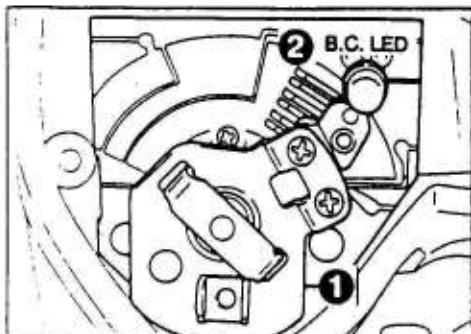

Fig.2
2. Turn the mode selector ① to the B.C. Turn the VR2 and so adjust that the B.C. LED ② will start to light or flash between 7.34V and 7.06V (displayed on digital tester). (See Figs. 2 and 3.)
3. Turn VR1 and so adjust that the B.C. LED ② will flash or goes out between 7.04V and 6.76V.